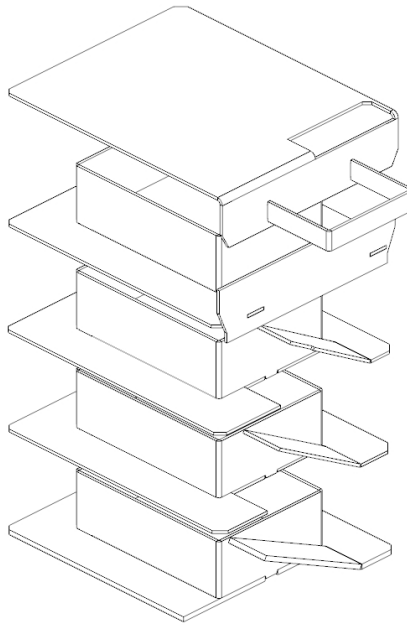

Figure 17-1: Baffles
2. Remove the baffles. Refer to Figure 17-1.
6. Replace the baffles, ensuring they are correctly fitted. Refer to Figure 17-1.